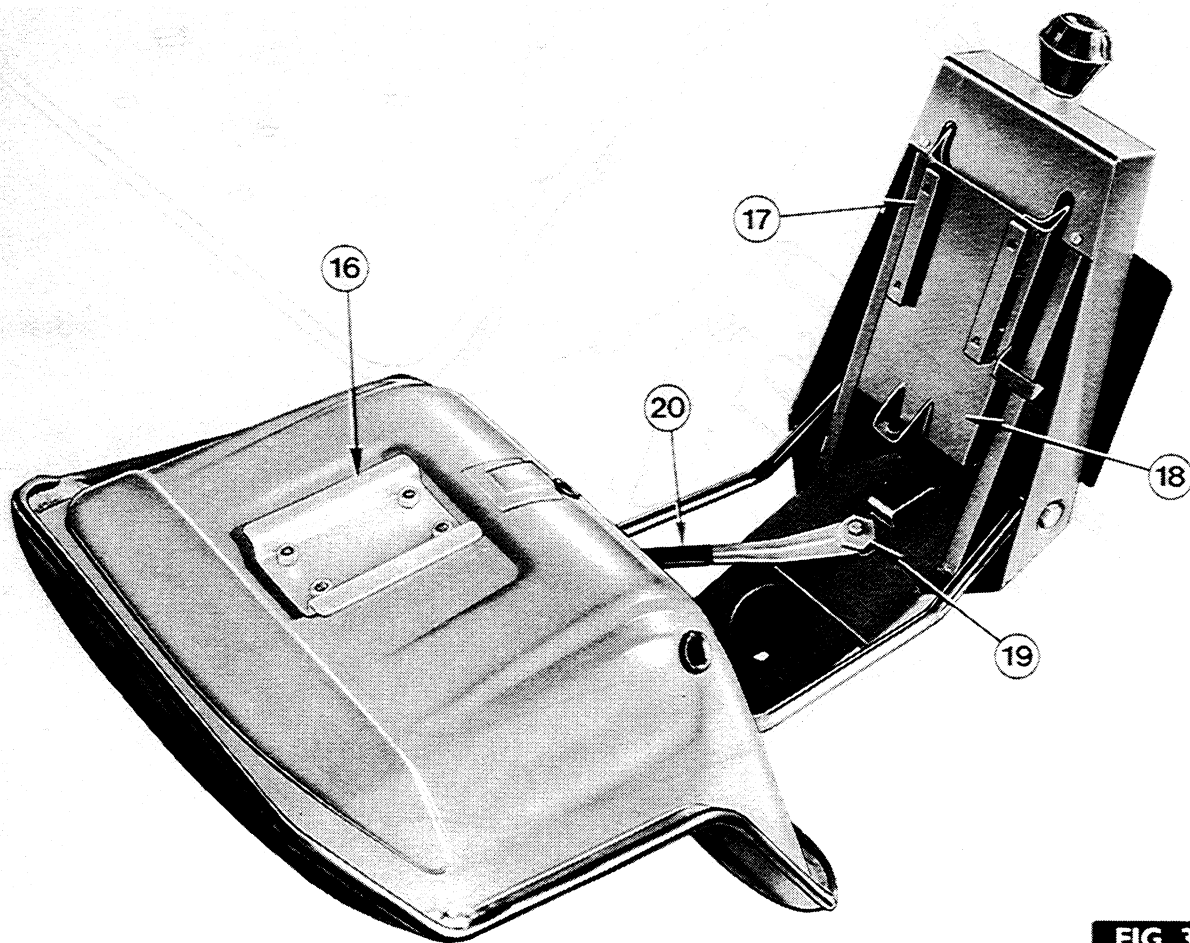
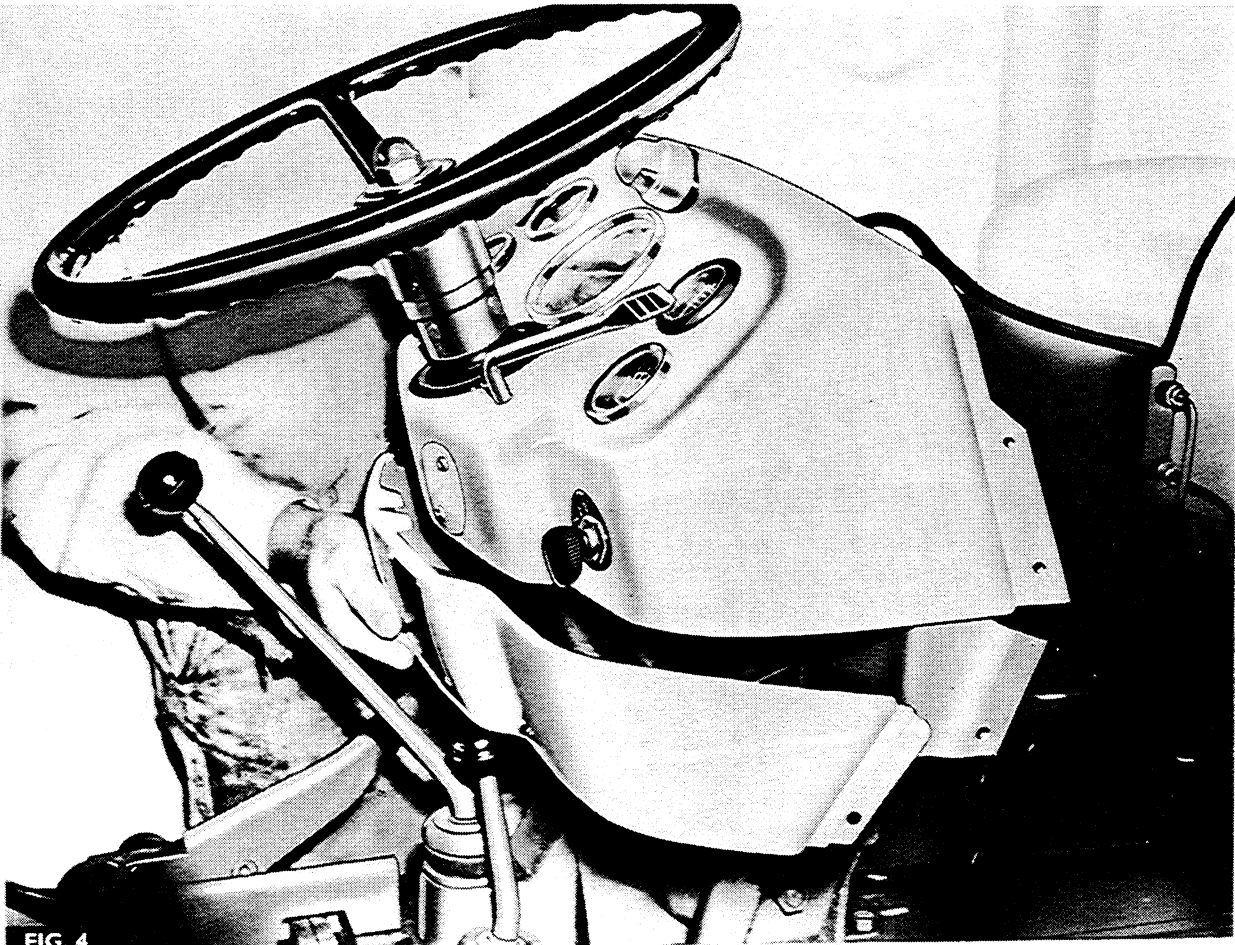

FIG. 3
FIG. 4
The seat pan is mounted on nylon bearings to the front of a tubular swing arm (1, Figure 2), the swing arm in turn, is mounted on nylon bushes and bolted to the seat pillar (2). A bracket (16, Figure 3) bolted to the seat backrest, locates on runners (17) with
A control lever (20, Figure 3) situated on the bottom of the seat frame allows the seat to be locked in any position on the seat riser. With the lever in the central position, the seat can be moved on its runners, along the riser, giving fore, aft and height adjustment. The seat is locked in the selected position by moving the lever to the right.
2. Lift the back of the seat pan to disconnect it from its runners (17) on the channel section plate (18) in the seat pillar (2).
3. Remove the four nuts and washers (14), bearing caps (12), and nylon bearings securing the seat pan to the tubular swing arm (1) and lift off the seat pan.
5. Unscrew the self tapping screws retaining the top cover (13) and control knob to the seat pillar and lift off the cover complete with control knob. Remove the retaining circlip beneath the top cover, to detach the knob.
shown in Figure 4, to free the nylon rollers (3, Figure 2) from their tracks (4) on the seat pillar.
7. Remove the snap rings and washers retaining the spring loops to the spring adjuster (6) and remove the adjuster.
8. Remove the snap rings retaining the pin (8) to the bottom of the channel section plate and withdraw the pin. The nylon spacers (9) and piston end of shock absorber (10) can now be removed.
10. Remove the bolts (15) securing the tubular swing arm and nylon bushes to the seat pillar.
11. Remove the bolt (19, Figure 3) securing the seat locking lever (20) to the seat and lift off the lever. The large bolt beneath the locking lever can now be removed to release the locking plate, situated beneath the top face of the seat riser.
3. Fig. 4. Remove the two bolts and washers securing the lower instrument panel and release the panel from the instrument panel as shown.
2. Fig. 4. Refit the lower panel and secure with the two bolts and washers.